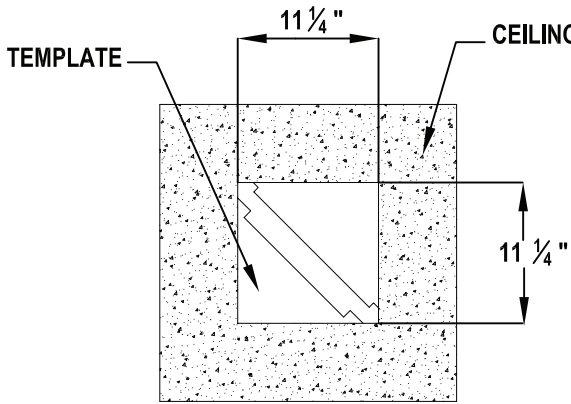

FIGURE 1
1. CUT OUT OUTSIDE SQUARE OF CARDBOARD TEMPLATE LOCATED ON LUMINAIRE BOX. USE TEMPLATE FOR CUTTING LUMINAIRE OPENING (11 1/4" X 11 1/4") IN DESIRED LOCATION IN CEILING TILE. (FIGURE 1)